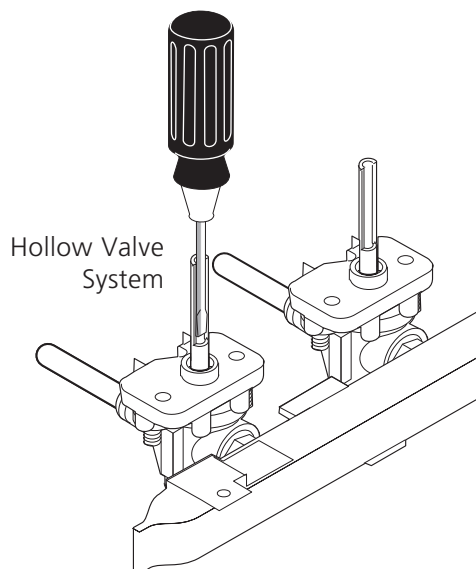

Figure 11
4. Adjust the "LO" or "SIMMER" Setting of Surface Burner Valves (see Figure 11)